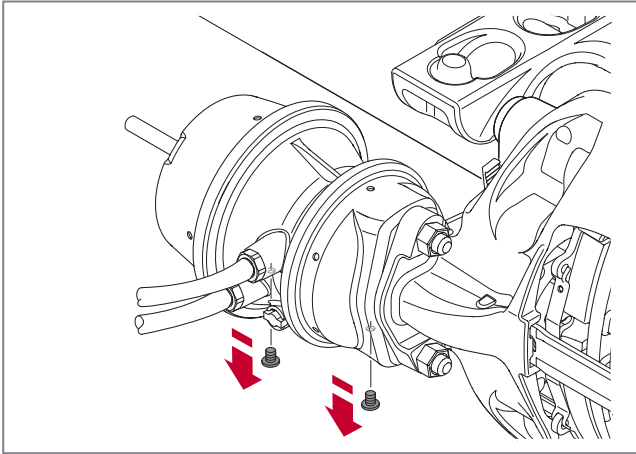

Fig. 47 - Removing the vent plugs
- Remove the downwards facing vent plugs from the brake chamber housing, see ► Fig. 47. If applicable, repeat this procedure for the spring brake chamber.